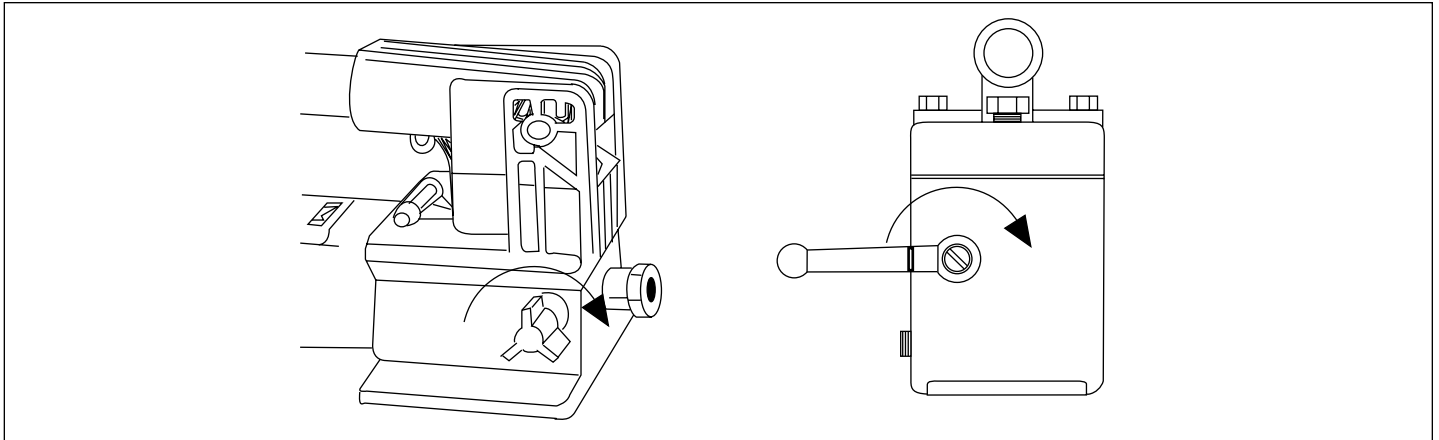

Figure 2
1. Close release valve by turning clockwise, as shown in Figure 2.